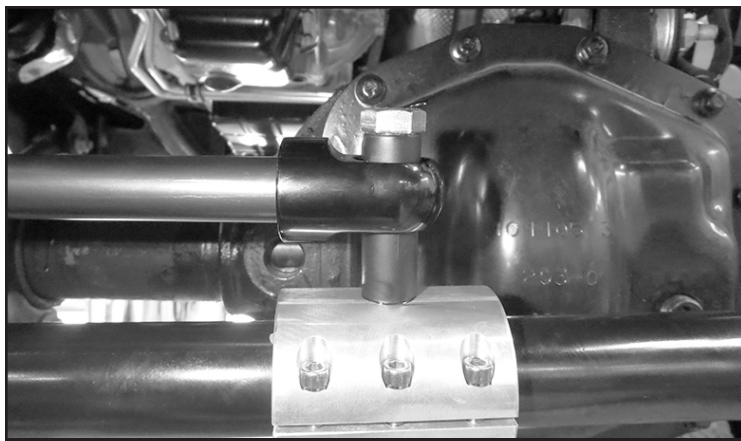

FIGURE 8 - STEP 9
9. Install the shaft end of the stabilizer to the tie rod clamp using supplied 1/2" bolt and thread locking compound. Torque to 106 ft-lbs **NOTE: Install the FT634 (Large Spacer) between the clamp and stabilizer and the FT633 (Small spacer) on the top.** **SEE FIGURE 8**